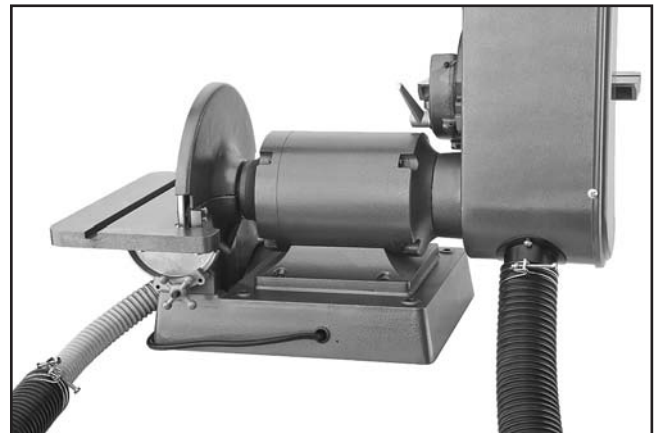

Figure 24. Dust hoses attached.
1. Fit the dust hoses over both dust ports, as shown in **Figure 24**, and secure them in place with hose clamps.